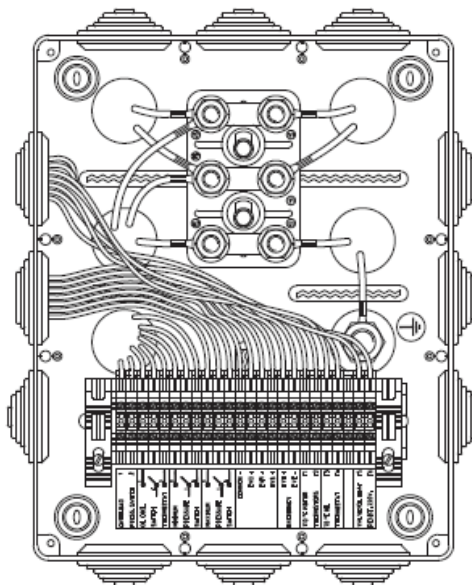

Figure 6 - Connection box for wired pump unit
- The pump unit box, cabled (optional), includes (see Figure 6):